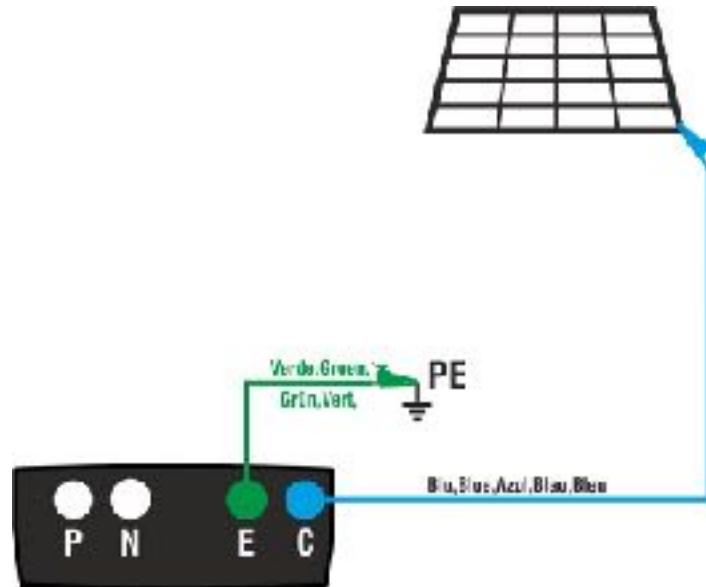

Fig. 6: Connection of instrument for continuity measurement on structures of the PV installation
- Connect the instrument to the PV module/string being tested and to the main earth node of the system as shown in Fig. 6.
8. Connect the instrument to the PV module/string being tested and to the main earth node of the system as shown in Fig. 6.